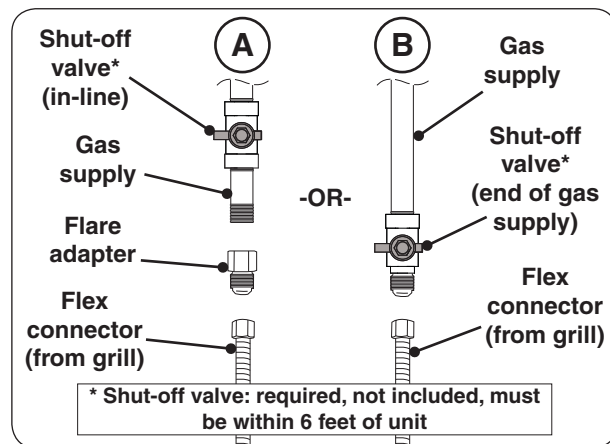

Fig. 18-2 Connecting to a gas line
- Install the supplied flare adapter to the gas supply using a pipe joint compound resistant to all gasses (see Fig. 18-2, A). Tighten securely.
- Connect the flex connector to the flare adapter (see Fig. 18-2, A). Tighten securely.
- Connect the flex connector to the shut-off valve (see Fig. 18-2, B). Tighten securely.